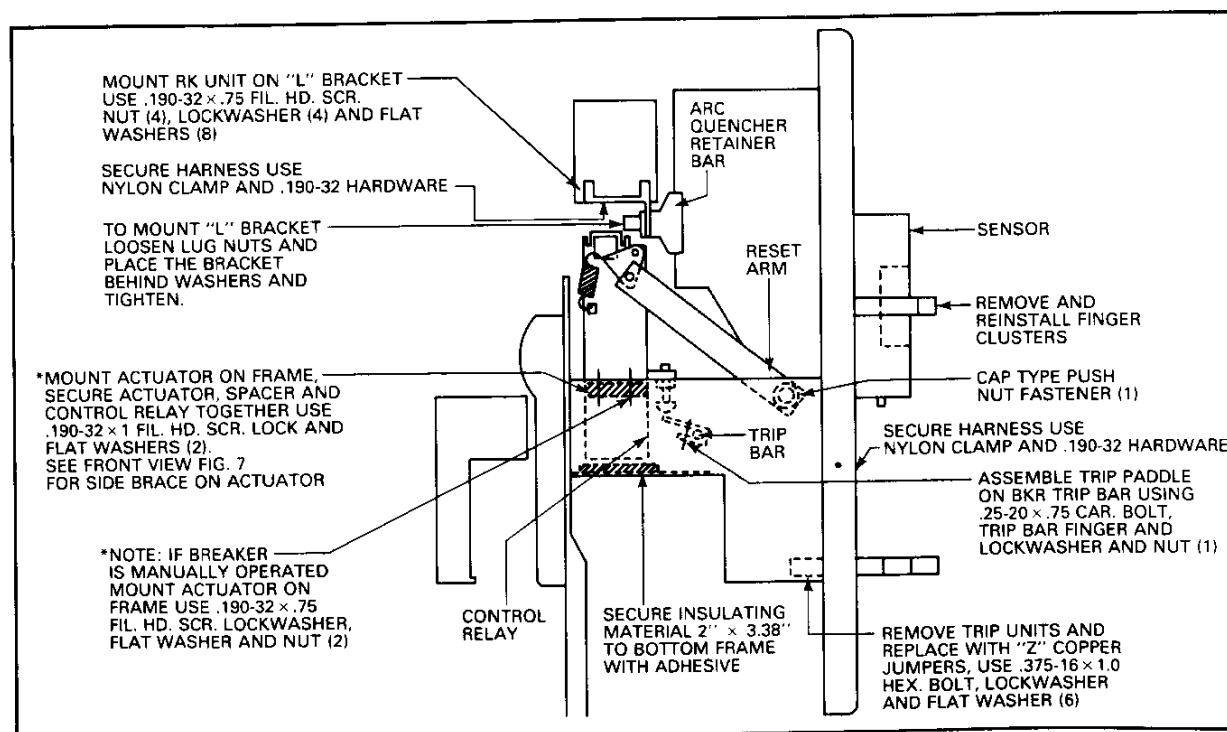

Fig. 5
Attach the ground lead to the screw holding the actuator-spacer and control relay Figs. 5 and 6. This now grounds the sensor star point.
6. Remove the finger clusters from the three upper stabs, place the sensors on the studs Fig. 5. Now re-install the finger clusters.
Step 2: Assemble trip paddle on breaker trip bar using 25-20 x .75 carriage bolt trip bar finger and elastic nut, do not tighten nut. Fig. 5
Step 3: Position the actuator above the holes that held the control relay, slide the bottom of the reset arm on the .50 shaft on the right side of breaker, and attach the cap type push nut fastener. Fig. 5
If the breaker is to be manually operated Steps 4 and 5 are not required. Secure actuator to frame Fig. 5. Use .190-32 x .75 Fil. Hd. Scr., lockwasher, flat washer and nut.
Step 7: Move the assembled trip paddle to line up directly under the trip adjustment screw on the actuator. Spacing between the trip paddle and trip adjustment screw is approximately $\frac{1}{8}$ " with breaker in closed position. See Fig. 5.
2. Secure the RK unit to the bracket using the .190-32 x .375 Fil. Hd. Scr., washers, lockwasher and nut, Fig. 5. and 7.